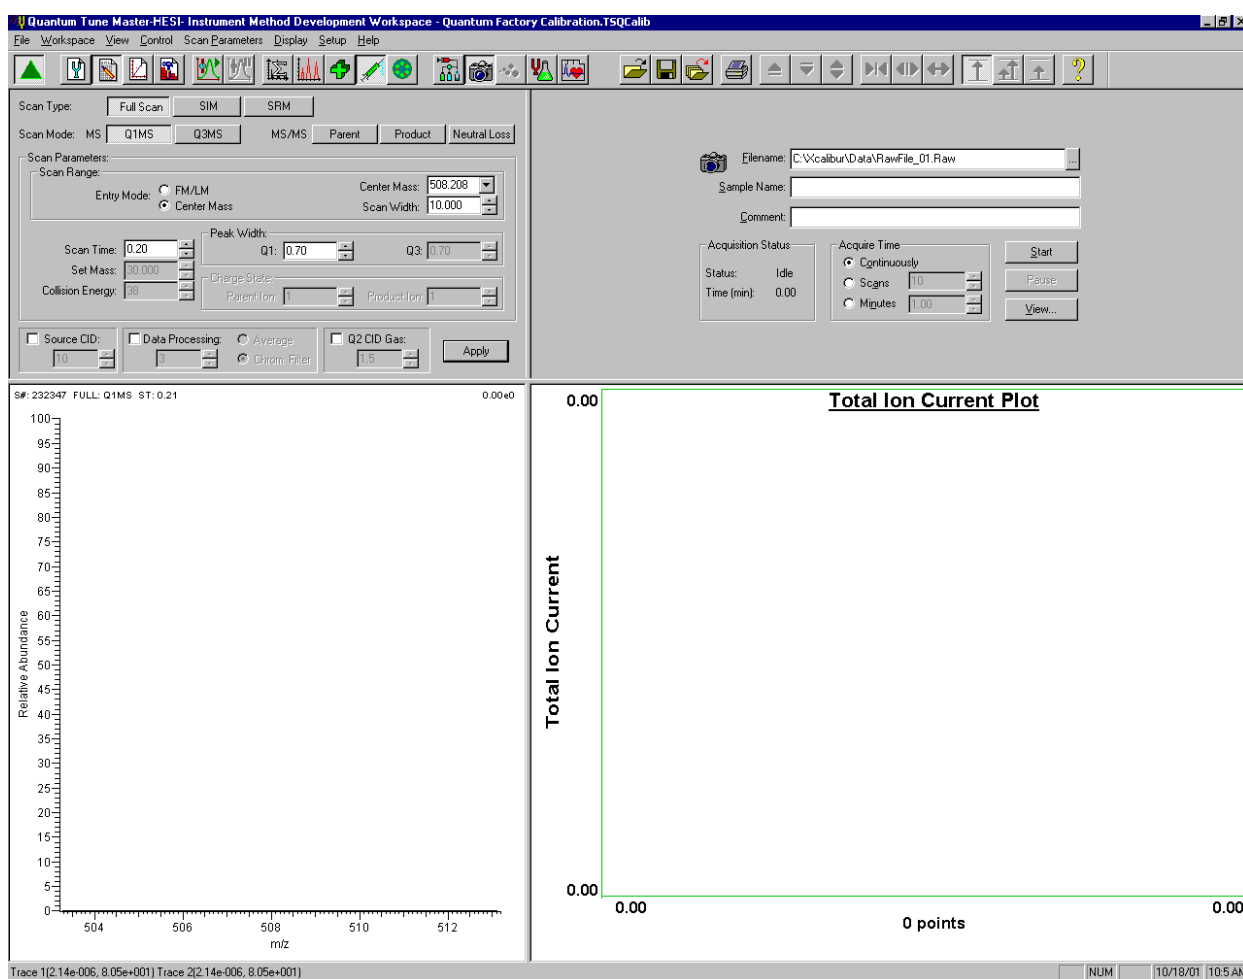

Figure 3-6. Instrument Method Development workspace
- a. On the Control / Scan Mode toolbar, click on the Instrument Method Development Workspace button to display the Instrument Method Development workspace. See Figure 3-6.